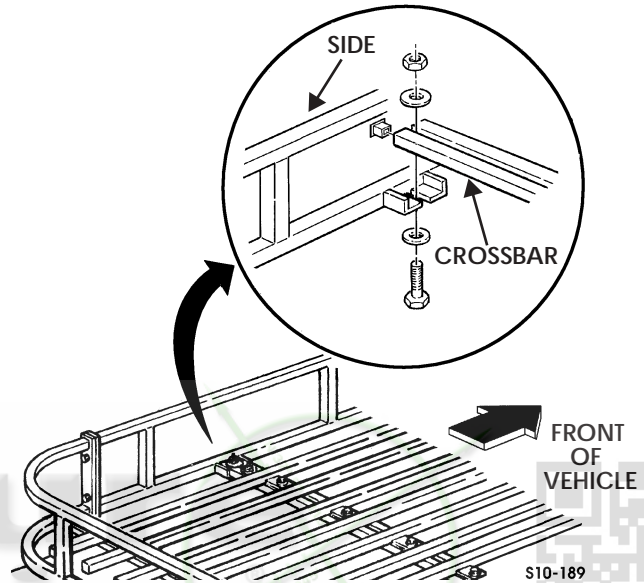

Figure 13-56: Roof Rack Crossbar
3. Remove four locknuts, washers, capscrews, washers, and crossbar from sides (Figure 13-56).
1. Install crossbar on sides with four washers, capscrews, washers, and locknuts. Tighten locknuts to 25 lb-ft (34 N•m) (Figure 13-56).